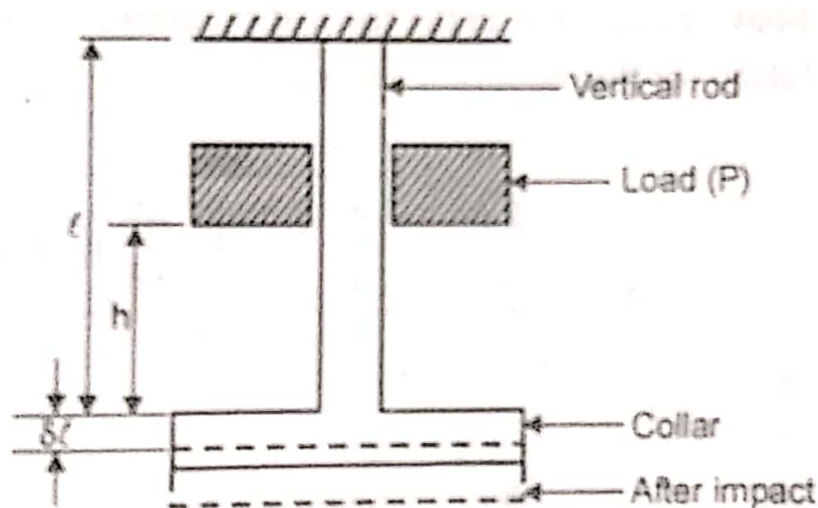

Figure 5.1 Impact Loading
Consider a vertical rod fixed at the upper end and having a collar at the lower end and has a cross-sectional area (A) as shown in figure 5.1. Let the load (P) dropped from a height (h) on the collar. Due to the sudden load (Impact load) the rod gets deformed.